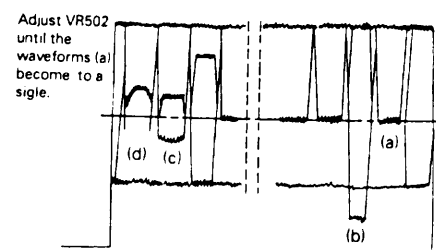

Fig 9.
- 4: Adjust the VR502 until it becomes to the waveform Fig 9.